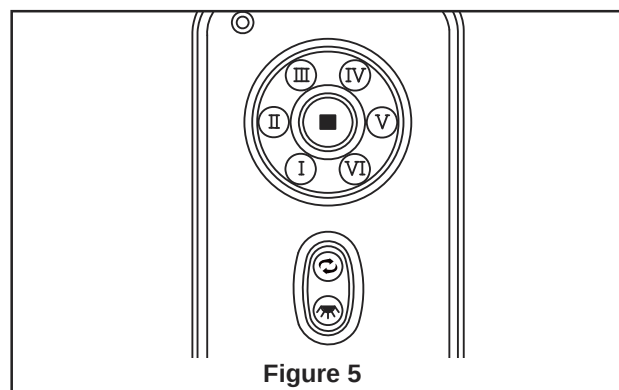

Figure 5
- ☐ **5.** Secure the glass to light kit assembly by twisting in a clockwise direction. Do not over-tighten. (Figure 5)
- ☐ 7. Remote functions: (Figure 5)